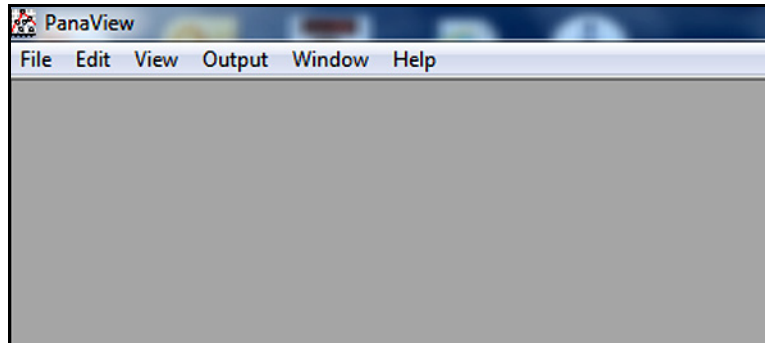

Figure 12: The Basic PanaView Window
2. As shown in *Figure 12* below, the default initial PanaView window contains only the following basic components of the interface (listed from top to bottom):
Note: To make the image in *Figure 12* below more readable on this page, the window was compressed both vertically and horizontally from its actual dimensions.